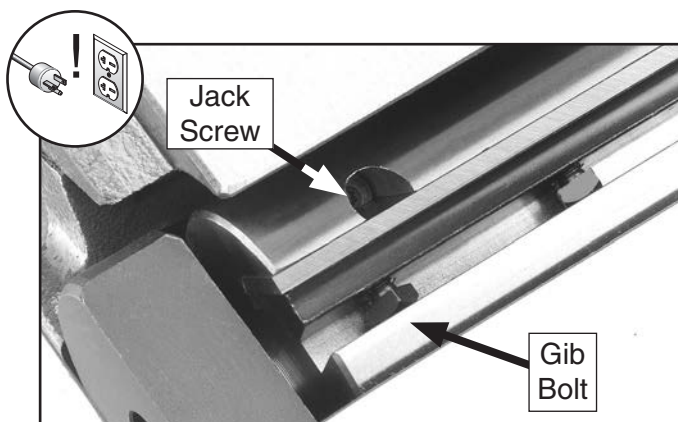
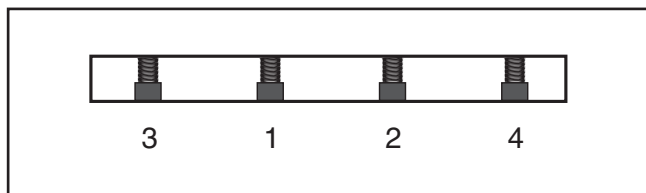

Figure 64. Jack screw access hole.
Figure 65. Gib bolt tightening sequence.
8. Rotate cutterhead to reveal the first knife you started with. Lightly snug all gib bolts (see **Figure 64**), alternating from one side to the other, and working from the middle to the ends (see **Figure 65**). Repeat with remaining knives.